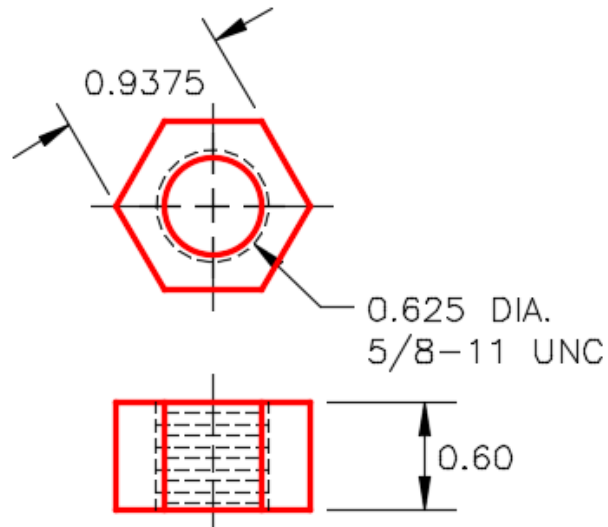

Figure Step 19A
Step 19 On layer: Solid 8, anywhere in model space, draw the solid model of the nut to match the figure. Do not draw the hole in the center. (Figure Step 19A and 19B)